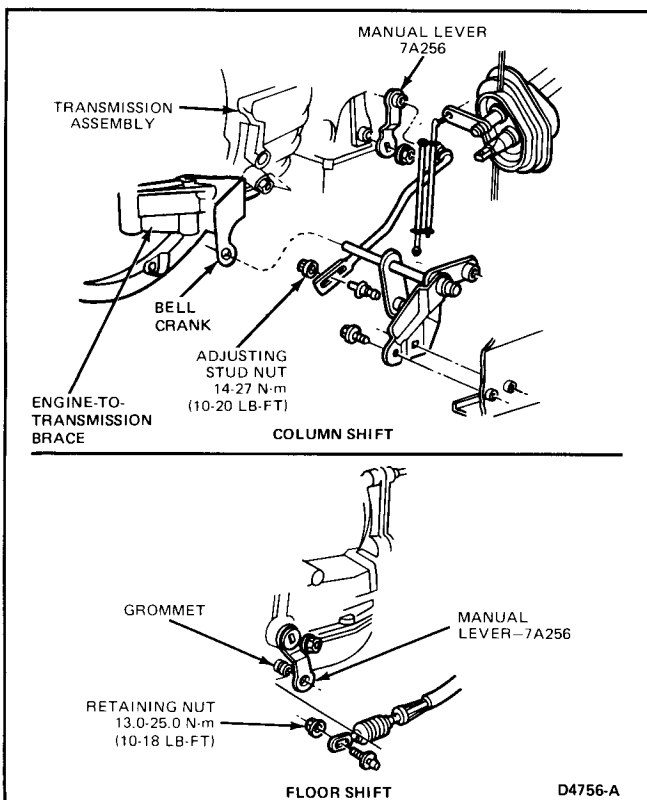

FIG. 1 Transmission Shift Linkage or Cable
2. Remove the shift rod adjusting stud nut and remove shift rod from stud (Fig. 1).
2. Raise the vehicle and loosen the manual lever shift cable retaining nut (Fig. 1). Move the transmission manual lever to the Overdrive position (third detent position from the back of the transmission).